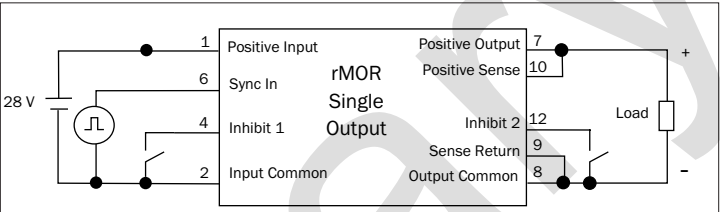

FIGURE 6: TYPICAL CONNECTIONS WITH SENSE PIN
A special remote sensing feature maintains the desired output voltage at the load. See Figure 6. When this feature is not used, connect the sense lines to their respective output terminals. See Figure 6. Remote sensing is available on single output models only. Do not exceed 110% of Vout and do not exceed maximum output power.
2. Case Options: For the standard case, U2, leave the case option blank. For other case options, insert the letter that corresponds to the desired case. See Figure 6 through Figure 11 for case designators and dimensions.